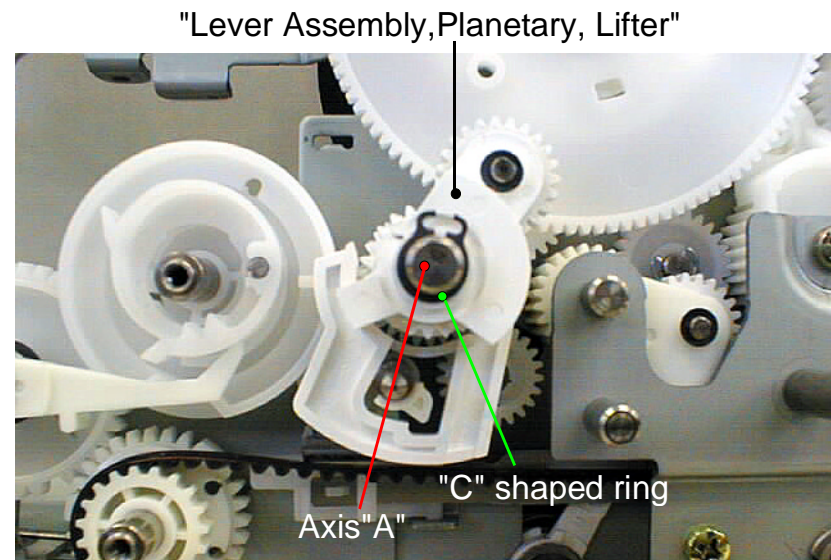

Figure 4-106. Installing "Lever, Assembly, Planetary, Lifter"
- 25. Insert "Lever Assembly, Planetary, Lifter" into the same axis(axis "A") and fix it with "C" shaped ring. (Refer to Figure4-106)